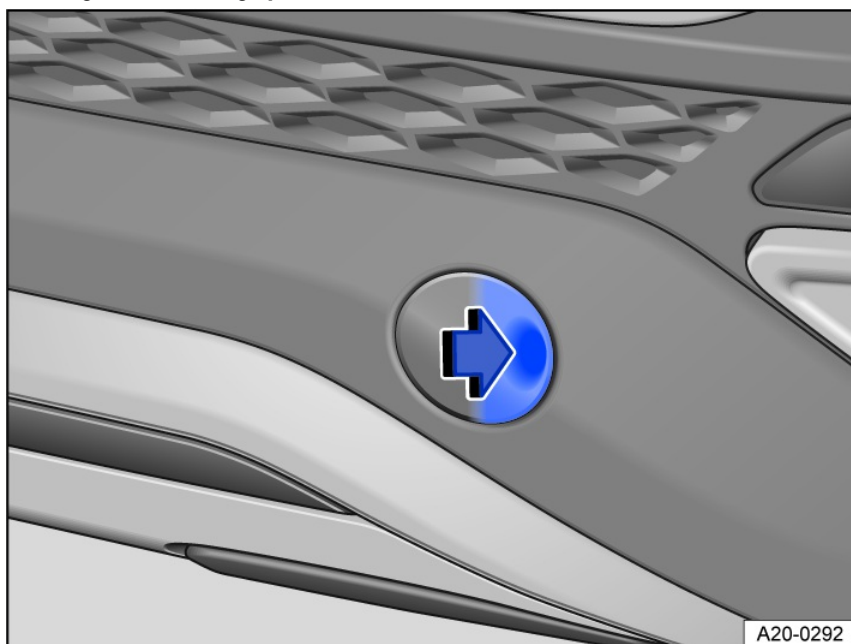

Fig. 146 In the right rear bumper: Remove cover.
2. Press on the marked area of the cover in the direction of the arrow to release the catch on the cover *fig. 146*.